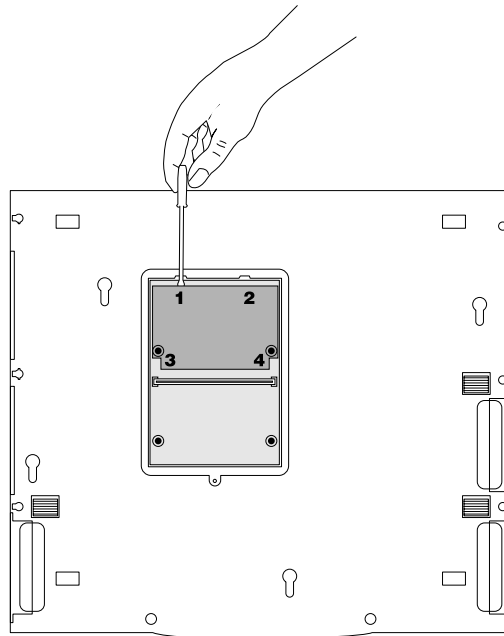

Figure 3-13 Removing the Main Memory Module
Caution: You must pry gently upward at the leverage points shown in Figure 3-12 and Figure 3-13 or you may damage your memory modules or the main system board and void your system warranty. The leverage points are numbered and you must pry gently upward in the order shown to remove the memory modules without damaging them.
- c. Using a small flat-tip screw driver, pry gently upward against the outer edges of the system's primary main memory module until the memory module is free of its RAM connector, as shown in Figure 3-13.